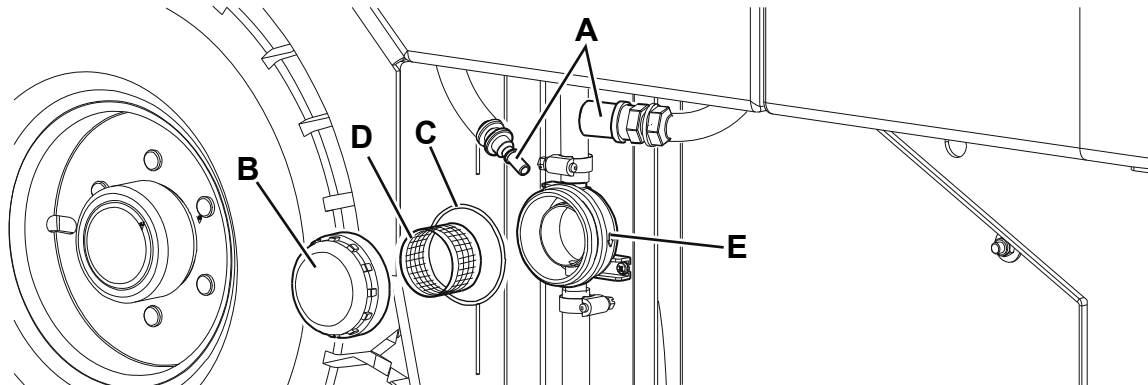

Figure 7
1. Drive the machine on a level floor, engage the parking brake and turn the ignition key (64) to "O".
2. Disengage the quick coupling (A, Fig. 7) from the tank hoses.
3. Remove the left panel (2) to reach the water filter (30).
4. Remove the transparent cover (B) with the gasket (C), then remove the filter strainer (D). Clean and install them on the support (E).